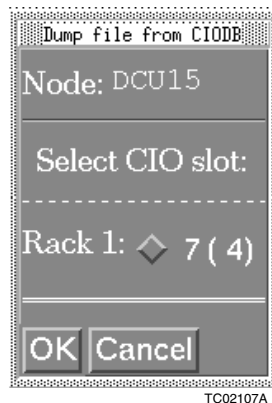

Figure 6-4. Dump Program File Selection Window
3. Click *dump*. A window will open similar to Figure 6-4.
In Figure 6-4 the Harmony DCU selected from the system status display was DCU15. DCU15 only has one rack and that rack contains only one DIO board. If there were two racks and more DIO boards, all would be shown on this window. The single DIO board in DCU15 is in slot seven, rack one. The logical number of the DIO board is shown in parenthesis after the slot number. The logical number of the DIO board is four.